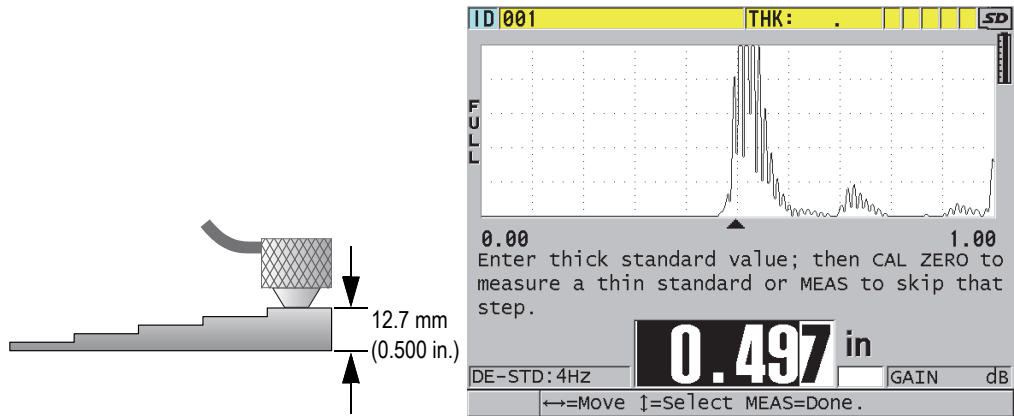

Figure 5-4 Performing the material sound velocity calibration on a 5-step test block
1. To perform the material sound velocity calibration (see Figure 5-4 on page 84):